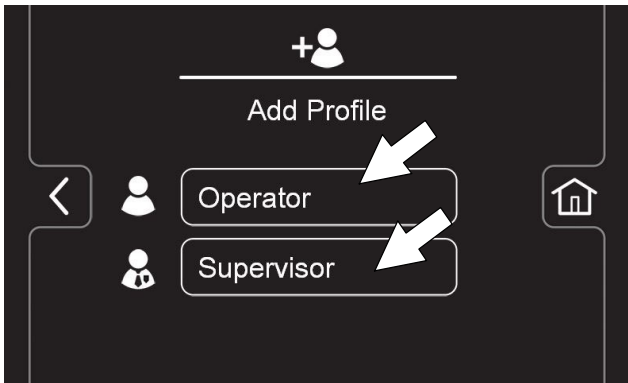

FIG. 179
3. Press the Operator button to add an Operator mode profile or press the Supervisor button to add an additional supervisor mode profile (Figure 179).